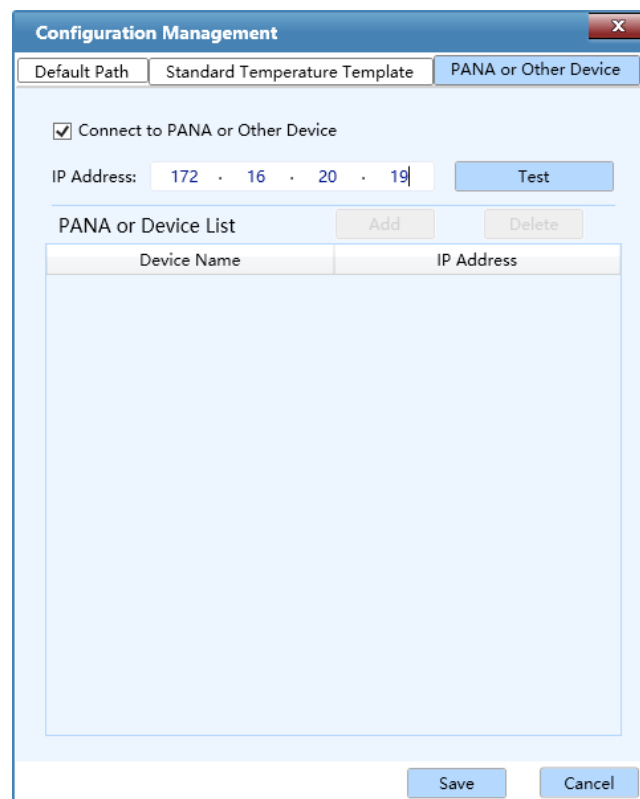

Figure D-3.8c. Configuration Management Interface - PANA Tab
- ▶ **PANA or Other Device** tab: Gentier instrument can be connected with PANA nucleic acid workstation of our company, and experiment can be created according to the PCR reaction system established by PANA nucleic acid workstation, as shown in figure D-3.8c.